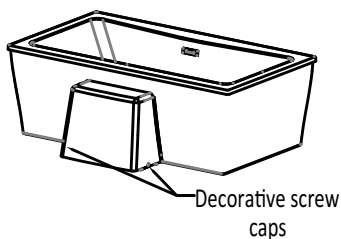

Figure 11
- Place the AEC cabinet only in the front of the bath skirt opening. The center of the cabinet should be aligned with the center of the opening. The extrusion trim can be slightly moved to help fill any gaps between the cabinet and the bath skirt. Mark on the floor, the location of the (2) decorative screw caps installed on the cabinet. See Figure 11